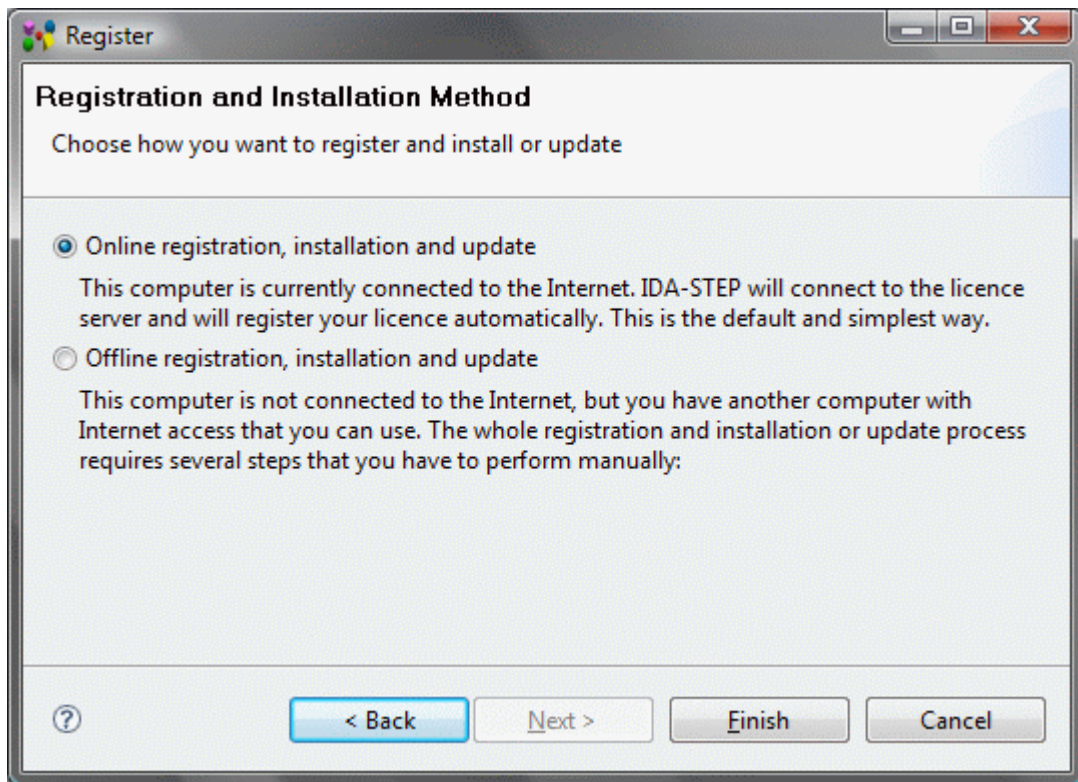

Figure 7. Registrations and Installation Methods page
The user can choose how to register a new license or update licensed features - online or offline - in the **Registration and Installation Method** page (see Figure 7).
- Select the **Offline registration, installation and update** radio button in the **Registration and Installation Method** page (see Figure 7).